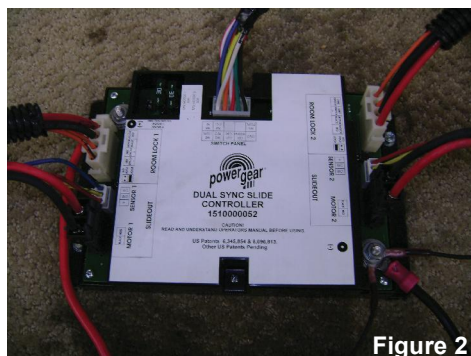

Figure 2
1. Locate the slideout room control module on your Motor home. **Figure 2**